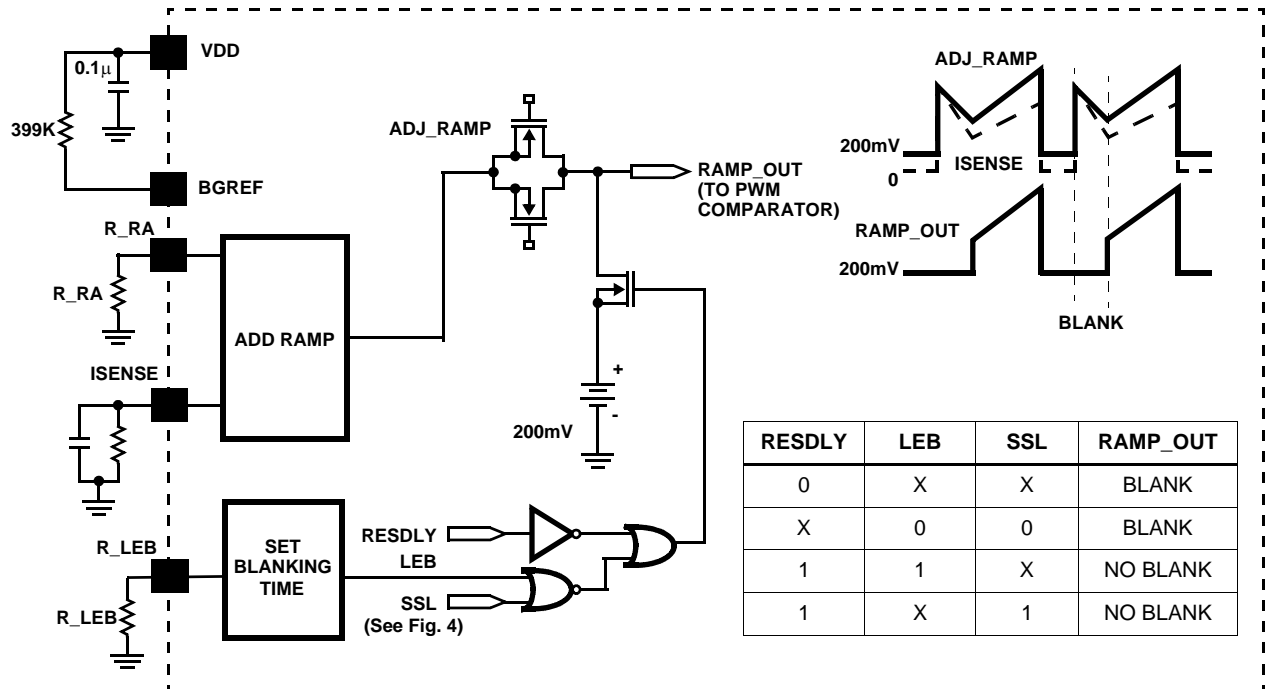

FIGURE 9. SIMPLIFIED RAMP ADJUST AND LEADING EDGE BLANKING CIRCUITS
- The ramp adjust block adds an offset component (200mV) and a slope adjust component to the ISENSE signal before processing it at the PWM Logic block, as shown in Figure 9. This ensures that the ramp voltage is always higher than the OAGS (ground sensing opamp) minimum voltage to achieve a “zero” state.
- Typical ramp values are hundreds of mV over the period on a 3V full scale current. Too much ramp makes the controller look like a voltage mode PWM, and too little ramp leads to noise issues (jitter). The amount of ramp (V_{ramp}), as shown in Figure 9, is programmed with the R_RA resistor and can be calculated with Equation 10.